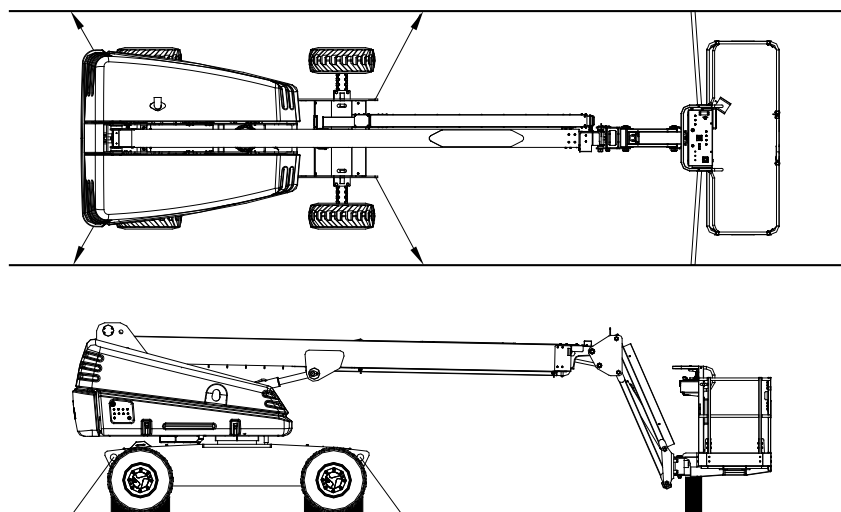

Figure 2-19. Tie-down Points
6. Anchor down aerial platform to transport surface using tie-down points (refer to Figure 2-19).